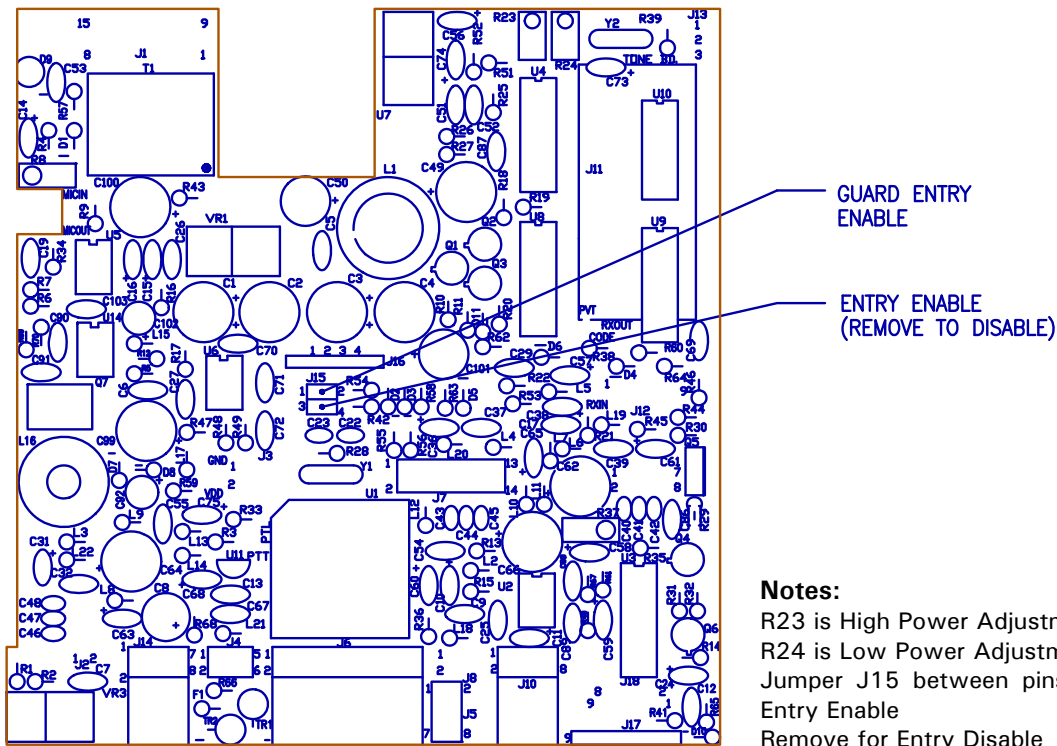

FIGURE 3.4 Internal Enable/Disable Jumper and Transmit High/Low Power Adjust Locations
4. You should now have access to the Microprocessor Control Unit (MCU) PCB Module (See FIGURE 3-4). Remove the enable/disable jumper from pins 3 and 4 or pins 1 and 2 of J15, as desired.
3. In low power mode, set the low power adjustment potentiometer R24 to produce 1.0 watt of RF output power (See FIGURE 3-4).